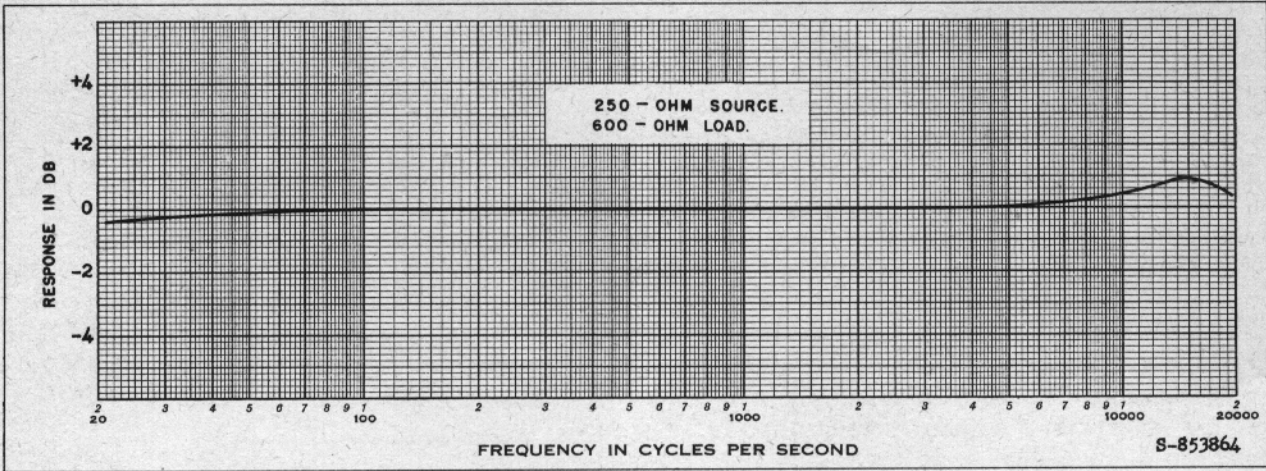
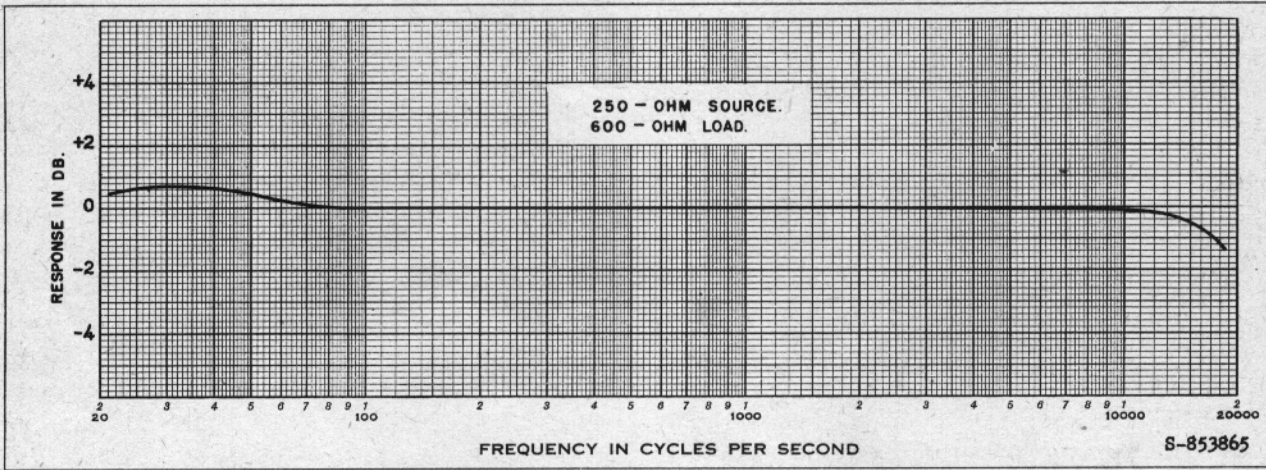
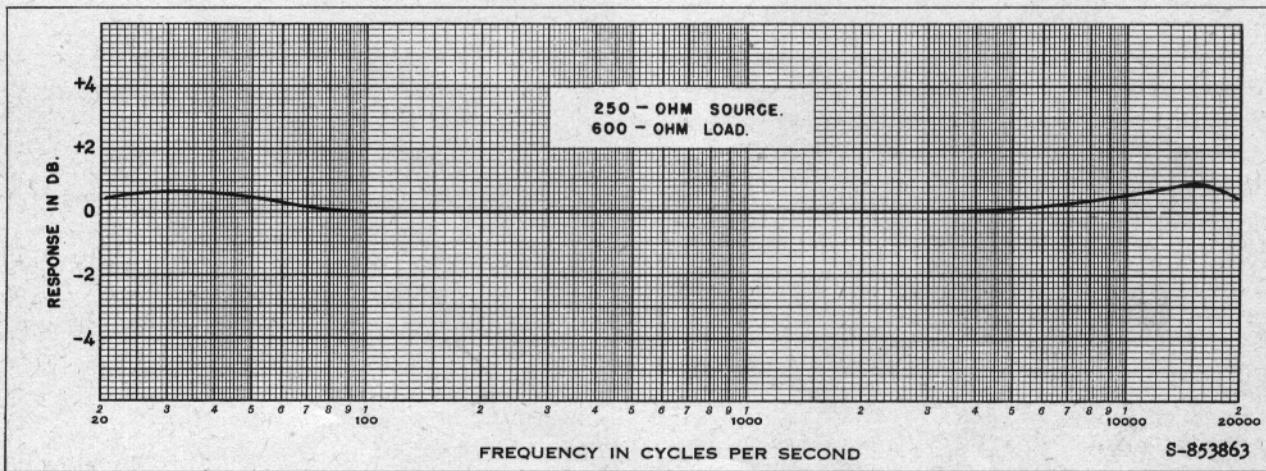

Figure 6—Frequency response with high-frequency compensation.
Figure 7—Frequency response with low-frequency compensation.
Figure 8—Frequency response with high- and low-frequency compensation.
20. Figure 6 illustrates a curve rising toward the high-frequency end. This condition can be obtained by removing from the circuit the 33-mmF capacitor C-4. Refer to figure 2. If the 0.1-mf interstage-coupling capacitor, C-3, is changed to one of 2,200 mmF capacity, the curve shown in figure 7 will result. Both of these changes can be made at the same time and the resulting characteristic will be as shown in figure 8.